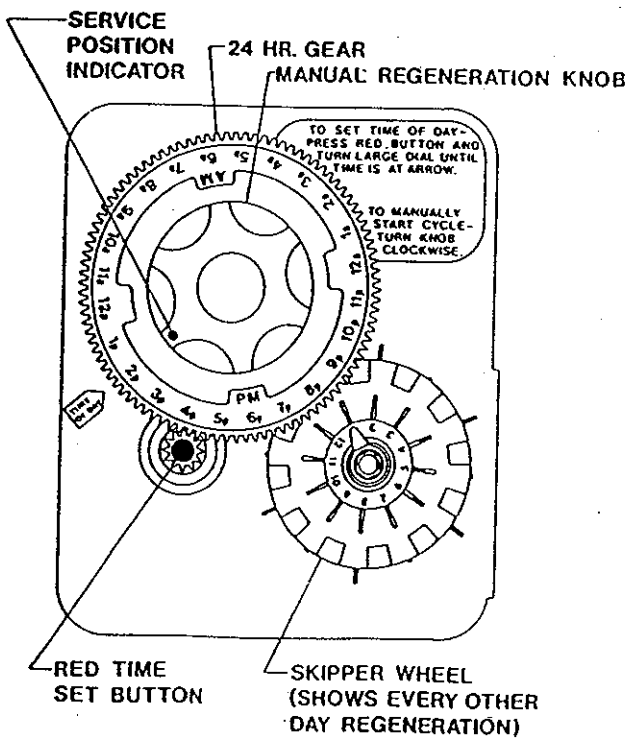

Figure 1
9. **Setting Time of Day** - Depress the red button and then rotate the large gear until the actual time of day is next to the "Time of Day" pointer, then release the red button. (Refer to Figure 1.) The units are factory preset to begin backwash at approximately 1:00 a.m.
10. **Setting Backwash Frequency** - Rotate the "Skipper Wheel" (Refer to Figure 1) until "1" is at the red pointer. Each number on the skipper wheel represent one day. Set the day that you want backwash to occur on by simply sliding out its tab on the skipper wheel. It is recommended to backwash filters every six (6) days. Slide out TAB number 6 and 12 for this setting.